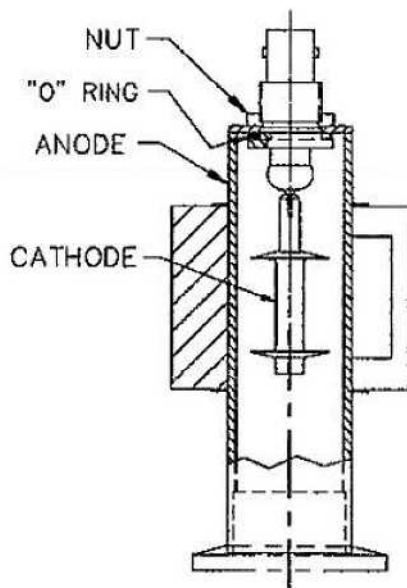

Figure 2: Older Style 525 Cleaning or Replacing Cathode
- a. Push the connector/cathode assembly out of the gauge tube through the vacuum side of the tube (Figure 2: Older Style 525 Cleaning or Replacing Cathode).
4. For older style 525: Carefully inspect the glass seal and the knife edges. If the glass shows any evidence of cracking, if the knife edges are significantly rounded, or if there is excessive pitting on any of the cathode surfaces, discard and replace with a new one (Figure 2: Older Style 525 Cleaning or Replacing Cathode).
- For older style 525 (Figure 2: Older Style 525 Cleaning or Replacing Cathode):